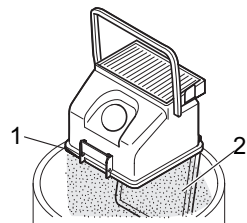

Fig. 25
4. Open the lock (Fig. 25/1). The base (Fig. 25/2) opens and the dust runs into the dustbin.